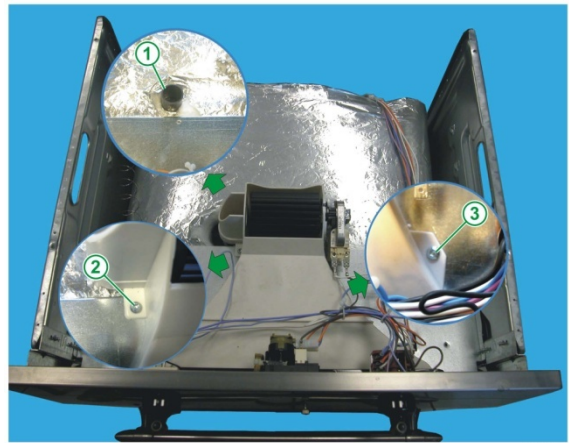

Fig. 5
- the 2 power fan screws (see Fig. 5).